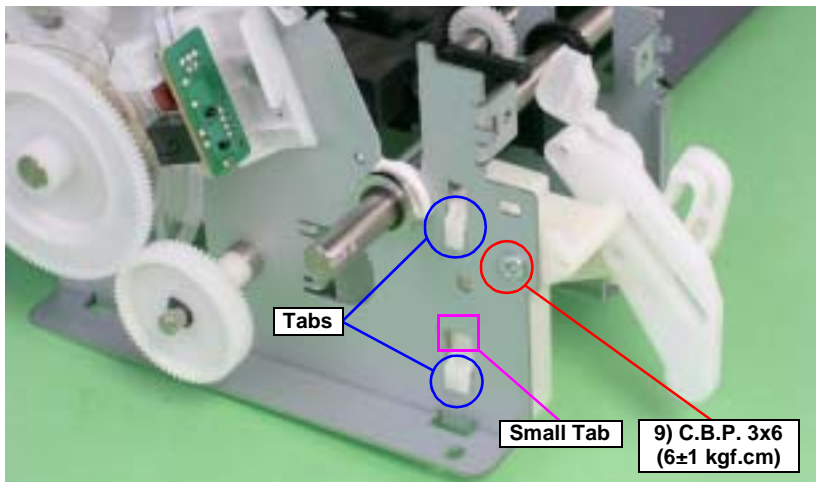

Figure 4-92. Removing the Left CD-R Release Lever Sub Assy
- Align the two Tabs on the Left CD-R Release Lever Sub Assy with the positioning holes on the Main Frame. See Figure 4-92.